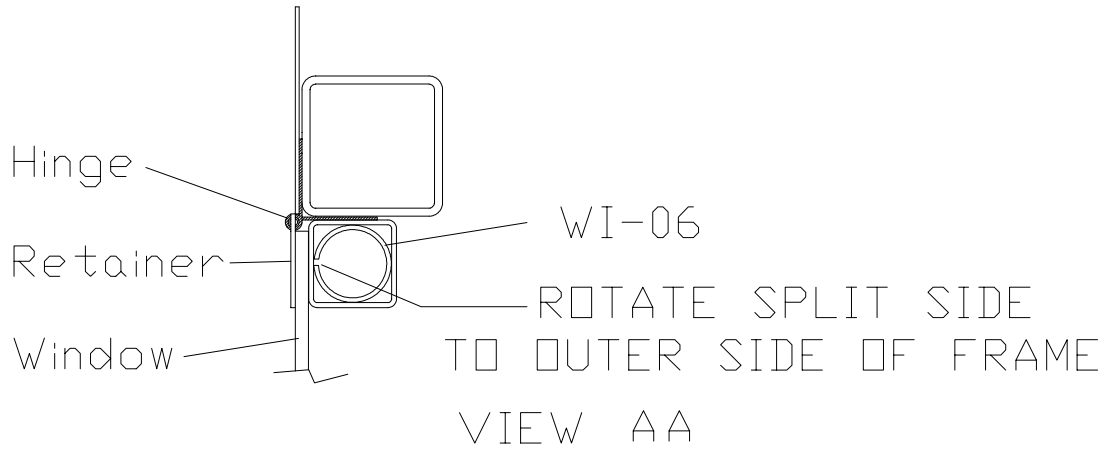

Figure 17.5.3
- 1) Fit the new window frames WI-01 inside the opening leaving a 1/8" space between them and the door frame. Insert a 3" long split piece WI-06 inside the WI-01 to splice the two pieces together. Split only one side of the WI-06 as shown in Figure.17.5.3
- 6) Install the hinge on the top of the WI-01 window frames with RV4412 flush rivets using a 2” spacing. Leave room for the window and retainer. Figure 17.5.3